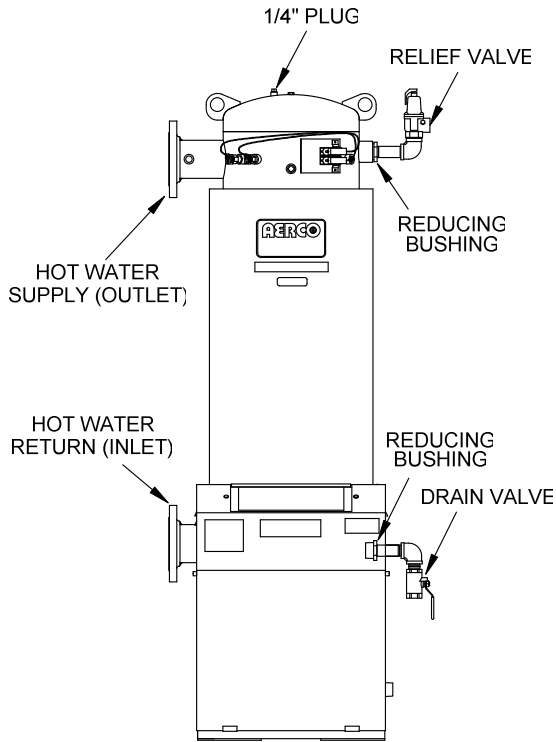

Figure 7.9
- Close the supply and return valves to the unit (Figure 7.9).
- Open the drain valve and allow the unit to fully drain. The 1/4 inch plug in the top of the shell may be removed to aid in drainage or the relief valve may be opened (Figure 7.9).
5. Remove the relief valve, drain valve (Figure 7.9) and any reducing bushings.